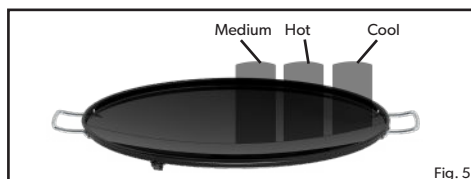

Fig. 5
- Cooking temperatures are easily adjusted to suit your own requirements by turning the control knob (K) to regulate the degree of heat. A feature of the Skottel BBQ is that it offers various heat zones (See Fig. 5). This is very useful as some foods cook quicker than others and the food that is ready first, can be moved to the cooler areas of the dish to keep warm whilst the balance of the food is still cooking.